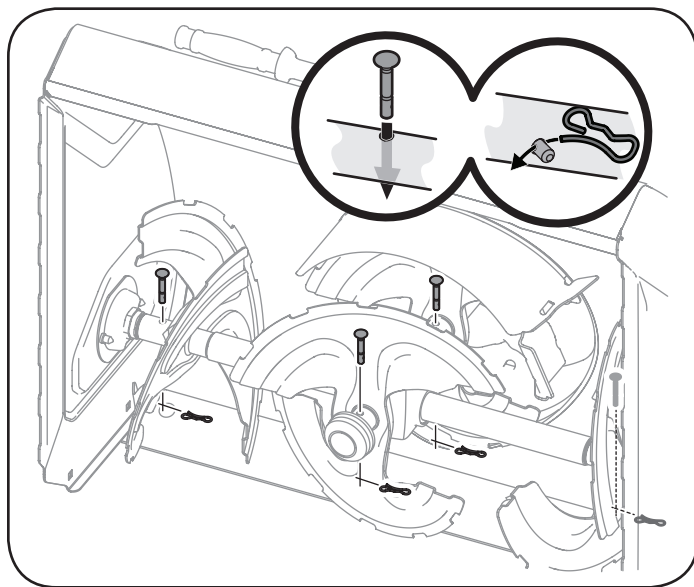

Figure 40
- The side augers and central accelerator auger are secured to the spiral shaft using black shear pins (OEM Part No. 738-05273). See Figure 40.